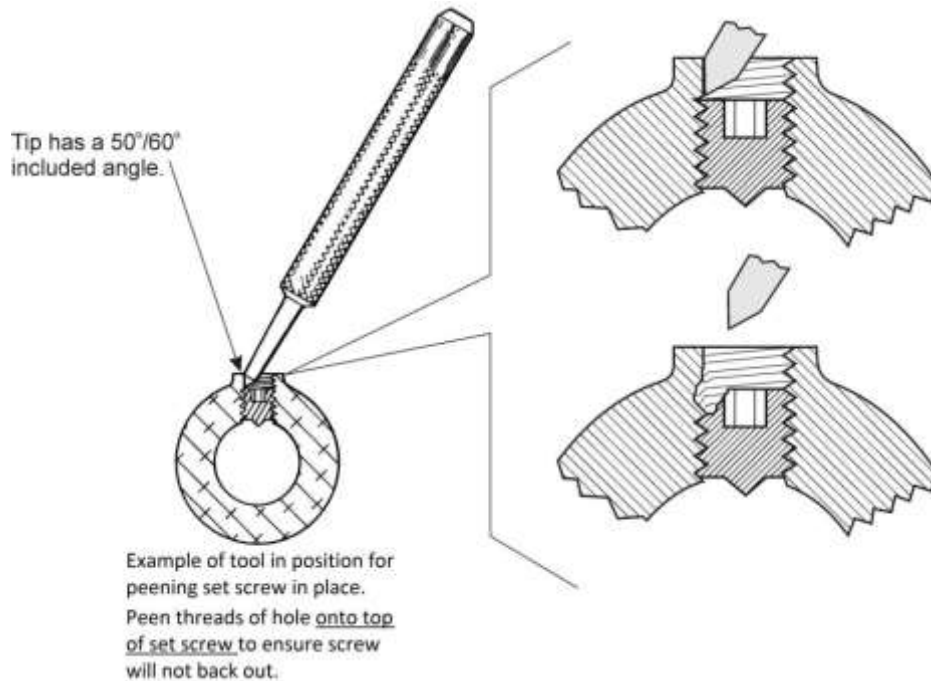

Figure 71
NOTICE: To ensure that there is adequate material in the set screw hole topeen on top of the screw, use a new set screw that is shorter than the one previously removed. A smaller diameter center punch could be necessary. Refer to Figure 71.
- (4) Use a smaller center punch (peening tool) with a 3/32-inch (2.38 mm) diameter at an approximate 50°/60° angle topeen the threads of the hole at the top of the taper above the set screw to prevent the set screw (as shown in Figure 71) from backing out.